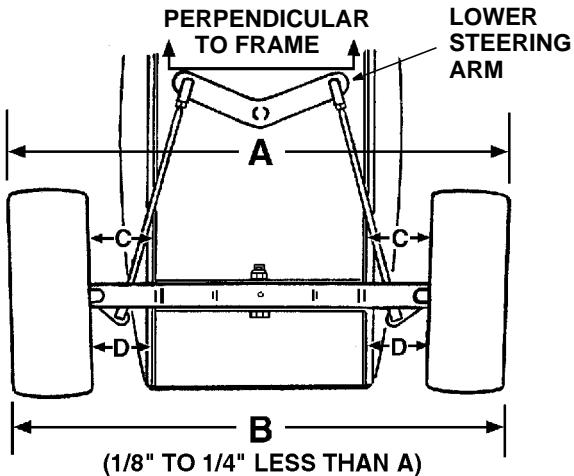

Figure 13
The front wheels should toe-in approximately 1/8 to 1/4 inch, as measured across dimensions A and B shown in Figure 13.
1. Check the lower steering arm to ensure it is perpendicular to the tractor frame (See Figure 13).
3. Rotate the wheels to position the marks at the front *horizontal* diameter of the wheels, then measure the distance between the marks and the bottom edges of the tractor frame channels (See measurement D in Figure 13). These two measurements should be equal.
4. While holding the steering arms to prevent the steering knuckles from moving, rotate the marks to the rear *horizontal*/diameter. Measure the distance between the marks and the frame (See measurement C in Figure 13). Measurement D should be approximately 1/16 to 1/8 inch less than measurement C on each side of the tractor.